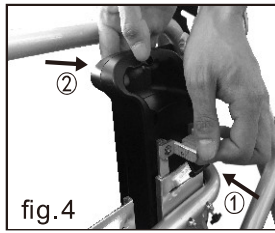

fig.4
5.1.3 The method for taking-out battery(Fig.4) :Press switch by hand, and then pull out the battery easily.